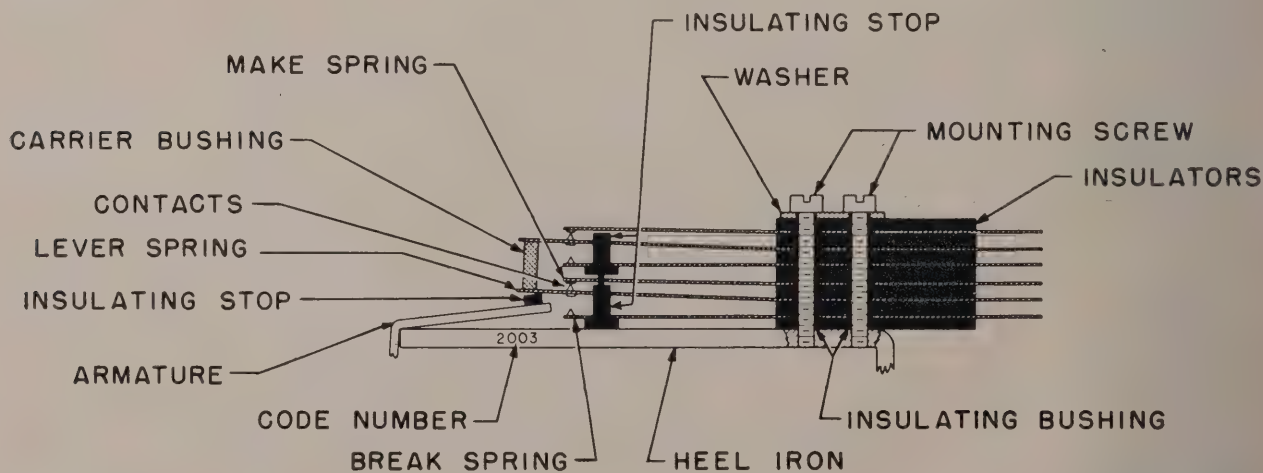

Figure 24. Double spring pile-up, cross-section
special contact points made of precious metal which is used because of its high conductivity and resistance against arcing. These contacts (fig. 24) are pointed as on the break spring, or are flat disks as indicated on the make spring. A lever spring contact is pointed on the upper side and flat on the lower. The combination of a point on one spring and a flat surface on the opposite spring tends to make a solid and self-cleaning contact. The flat contact is placed on the under side of the spring because it does not collect dirt so readily in this position.
(4) *Spring stops, bushing, and insulation.* The insulation stop on the armature prevents grounding of the lever spring on the relay frame. It is also necessary to insulate each spring from the others and from the frame. Figure 24 shows a
(a) *Spring combinations*. Relays of the No. 2000-type are identified by four-digit code numbers with associated prefix and suffix letters. The last three digits, such as 004 or 036 of a four-digit code number 2004 or 2036, indicate the types of spring combinations. These numbers are stenciled on one edge of the heel iron (fig. 24).